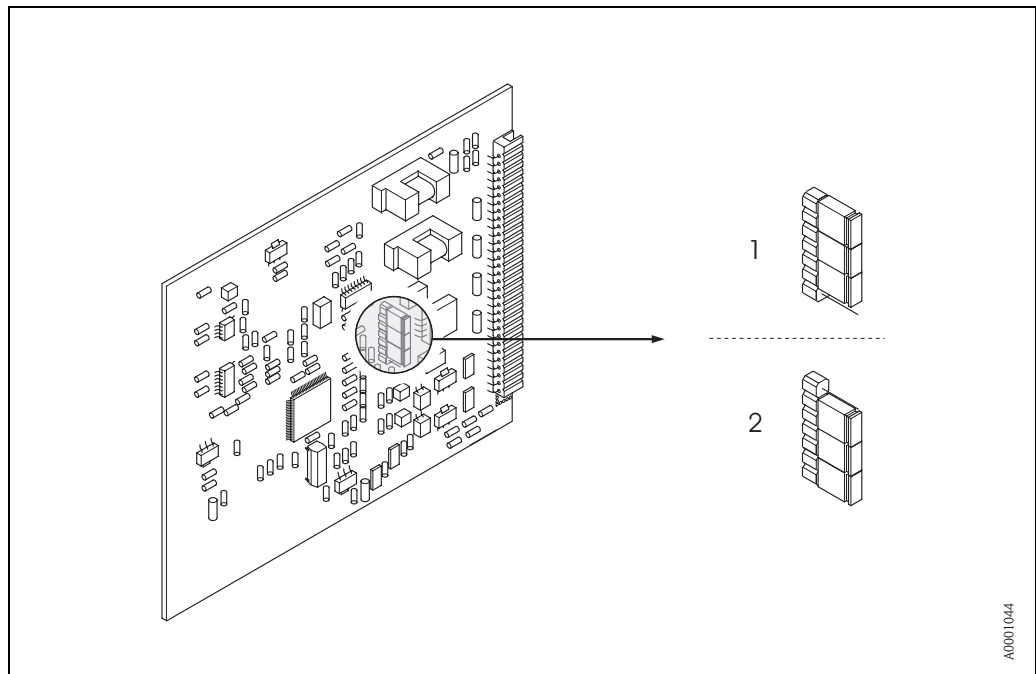

Fig. 18: Configuring the current output (I/O board)
3. Set the jumpers in accordance with Fig. 18.
Risk of destroying the measuring device. Set the jumpers exactly as shown in Fig. 18. Incorrectly set jumpers can cause overcurrents that would destroy either the measuring device or external devices connected to it.